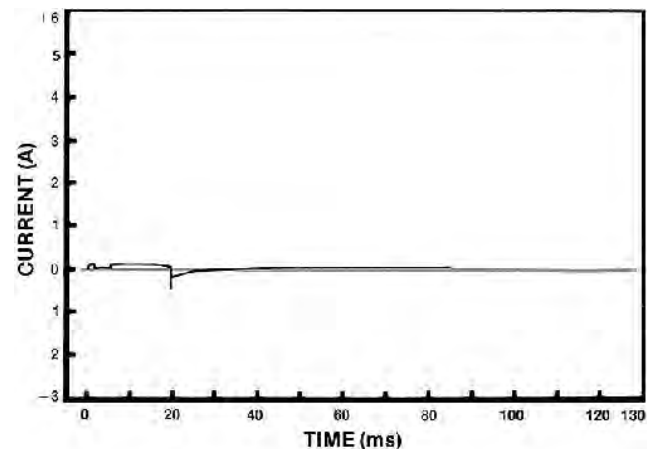
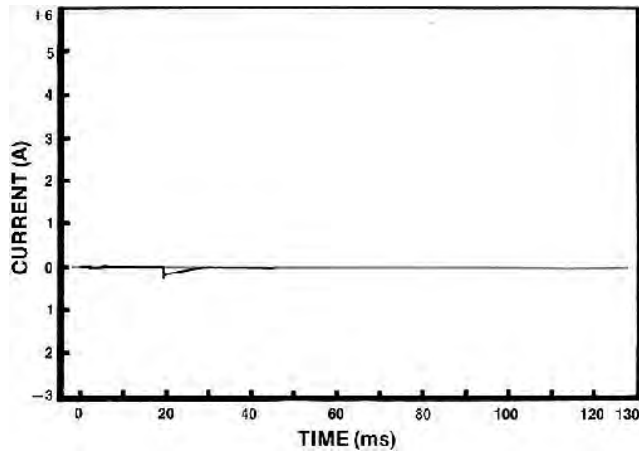

FIGURE 3. Current Delivered to a Well-Grounded Cow Touching a 5.4 km Well-Insulated Fence.
FIGURE 5. Current Delivered to a Normally-Grounded Cow Touching a 5.4 km Well-Insulated Fence.
**Electrical Charge:** FIGURES 3 to 6 show the current output of the Parmak FM when a cow touches 5.4 and 16 km lengths of well-insulated, single wire, fence. FIGURES 3 and 4 are for an animal resistance of 0.5 kΩ, which represent the most extreme condition of a cow standing in water and licking the charged wire, while FIGURES 5 and 6 are for an animal resistance of 4 kΩ, representing more normal ground conditions. The shock intensity is related to the peak current in the pulse; the higher the peak current, the more intense will be the shock.